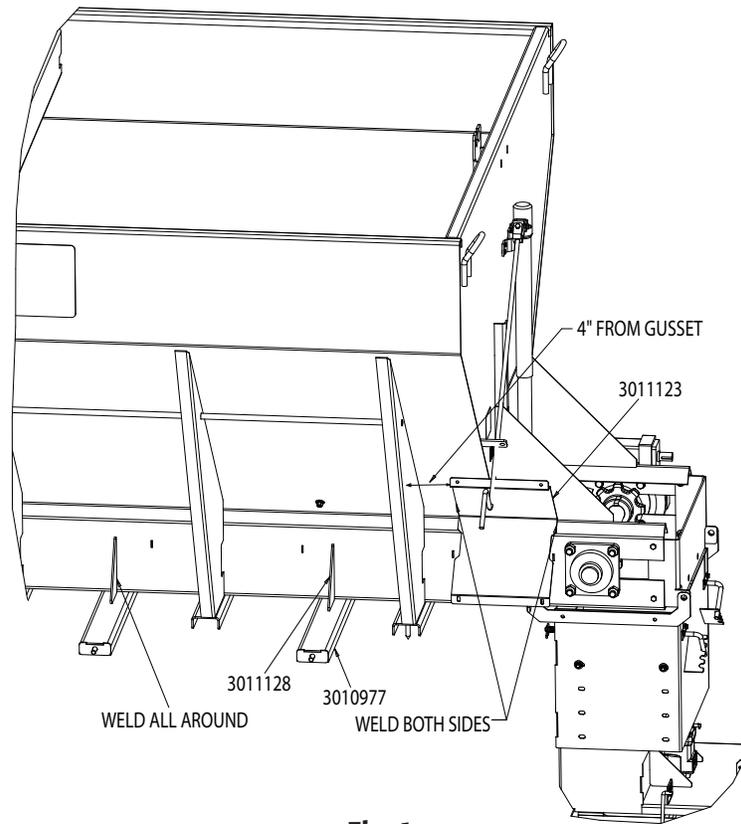

Fig. 1
1. Position pump enclosure bracket (#3011123) 4" from rear gusset on driver side of hopper spreader, (see fig. 1). Make sure bracket is rested on hopper's sill.
2. Weld pump enclosure bracket (#3011123) in place as shown in fig.1.
3. Position reservoir brackets (#3010977), gussets (#3011128) and bracket tie downs (#3011124) as shown in fig.2. Weld all parts in place as shown in fig.2 and fig.1 on both sides of spreader.